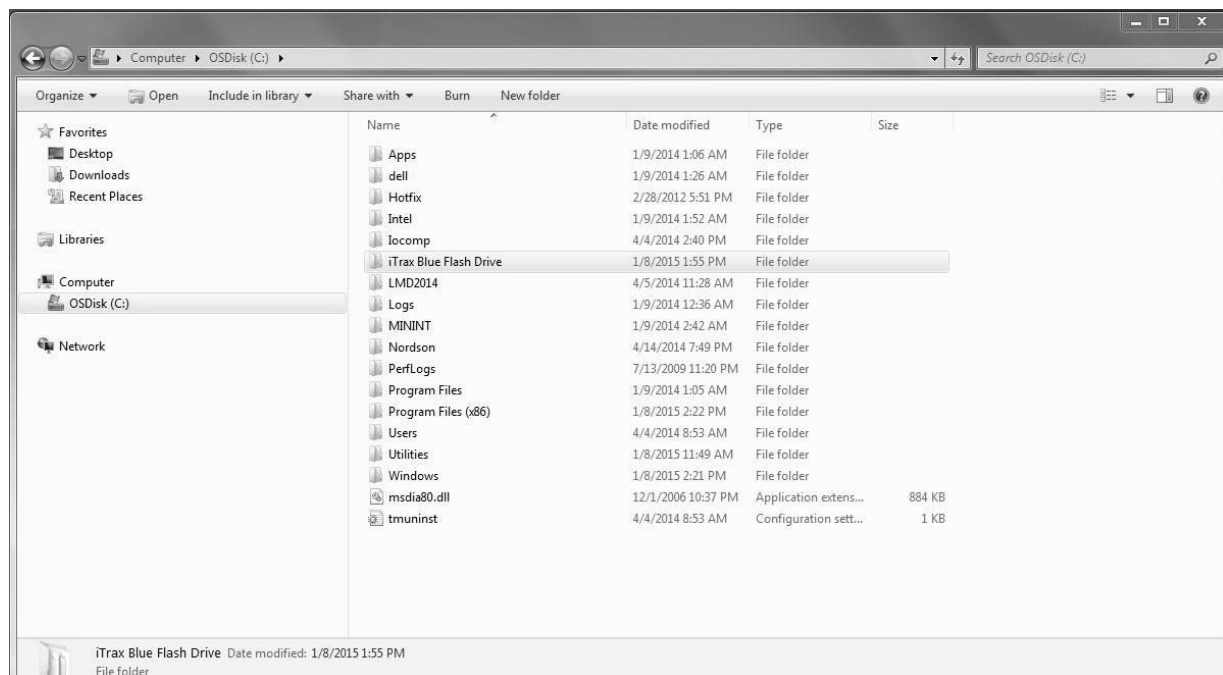

Figure 11 Creating the iTrax Blue Flash Drive Folder
2. See Figure 11. Name the folder iTrax Blue Flash Drive.